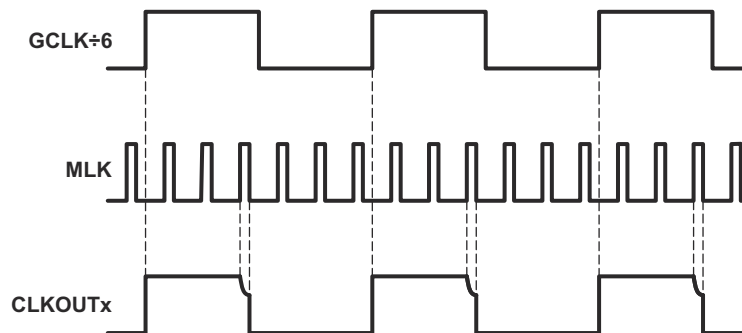

Figure 8-15. Gate Shaping Timing Diagram
- Gate voltage shaping starts on the rising edge of MCLK, which disables Q_1 and enables Q_3 . The LCD panel's pixel and storage capacitor now discharge through Q_3 at a rate determined by the external resistor R_E (see Figure 8-15).